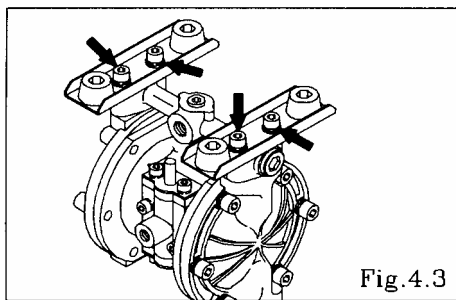

Fig.4.3
- Turn over the main body assembly. [Fig.4.3]
Remove the 4 retainer bolts from the in manifold, and remove the in manifold. [Fig.4.3]